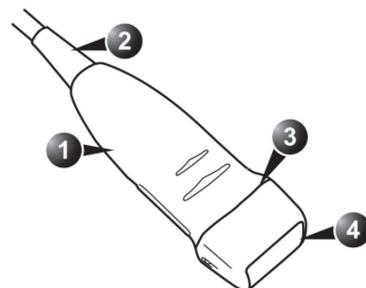

Figure 9-3. Probe parts
1. Inspect the probe (Figure 9-3), and visually inspect the housing, connection, operating elements, display facilities, labels, and accessories.
- Inspect the lens, the probe housing and the cable (Figure 9-3).